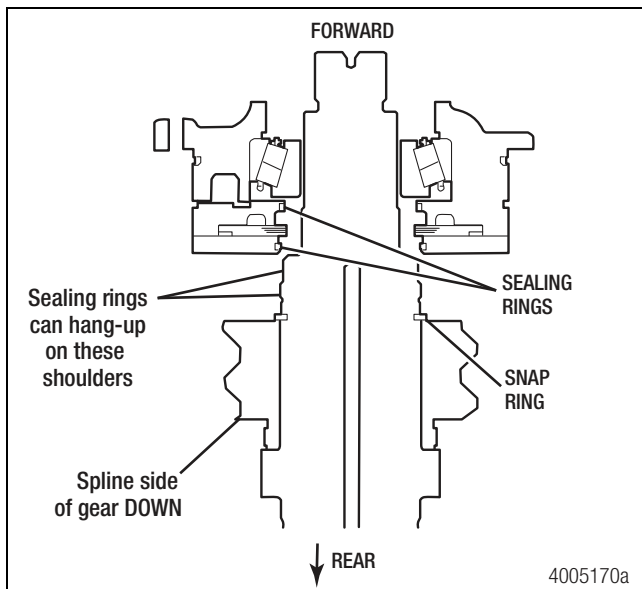

Figure 7.9
- e. MTC-4208X/XP and MTC-4210X/XP transfer cases only: Lubricate the sealing rings on the inside diameter of the pump and the shaft journal adjacent to the pump splines. Figure 7.9.